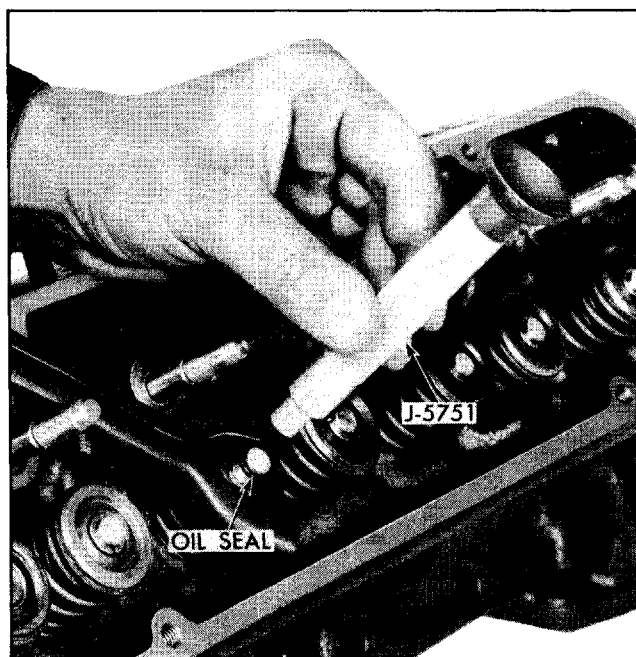

Fig. 6-45 Installing Intake Valve Stem Seal
2. Install valves, valve springs, intake valve stem shields, valve spring retainer cups, and retainer cup locks using suitable spring compressor. On intake valves, the new intake valve stem seal must be installed in the second groove (from end of stem). Valve Stem Seal Installer and Tester J-5751 can be used to install this seal (Fig. 6-45).